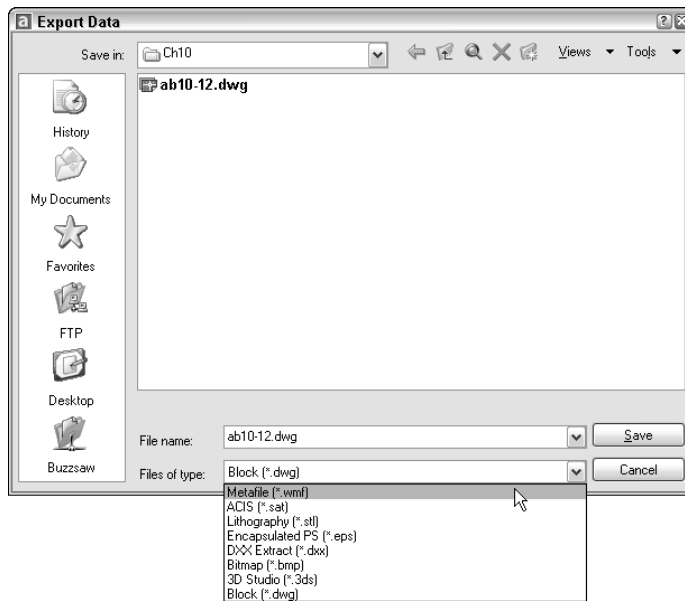

Figure 27-2: The Export Data dialog box
1. Choose File ⇨ Export to open the Export Data dialog box, shown in Figure 27-2.